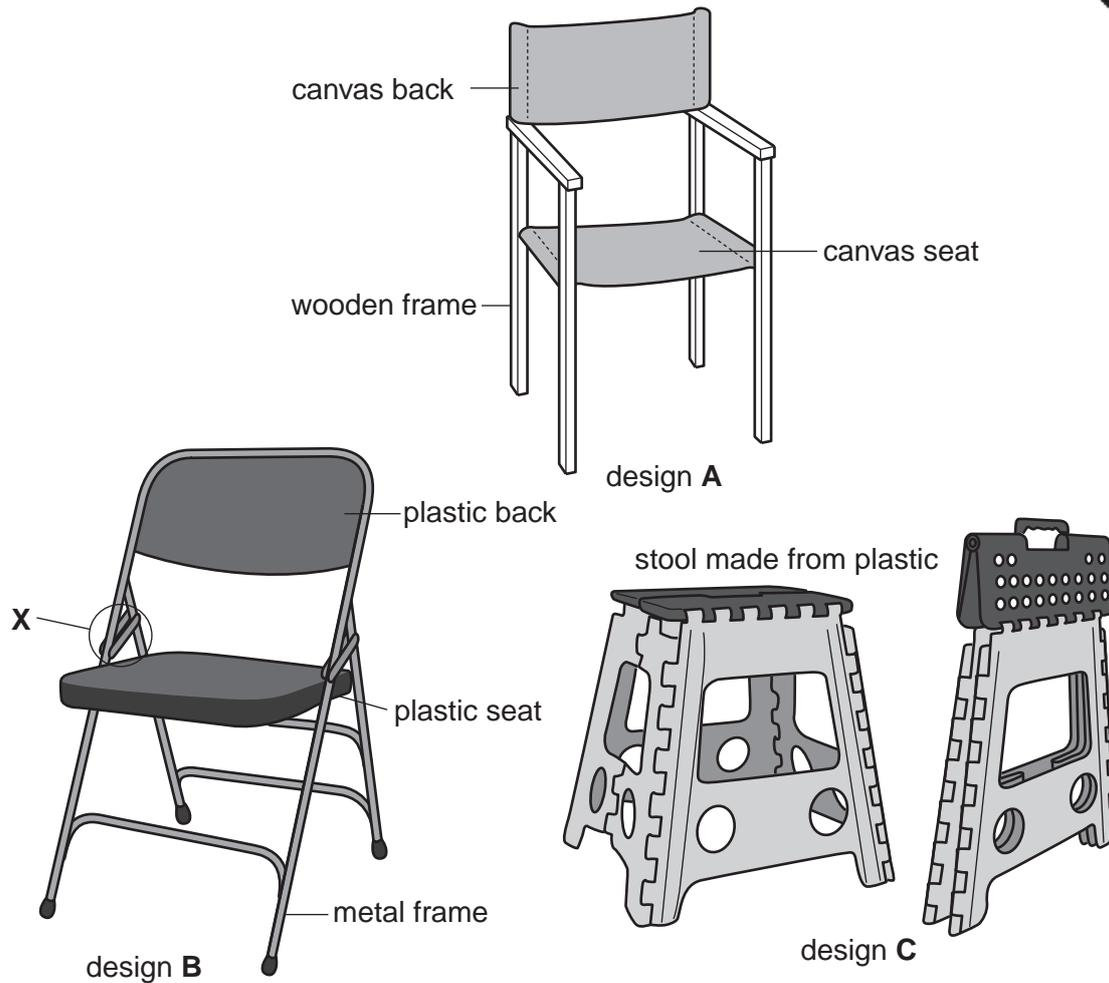

Fig. 6
- 6 Fig. 6 shows a range of designs for folding chairs and stools.
- (d) Discuss why design A might be considered more 'environmentally friendly' than the other designs shown in Fig. 6.